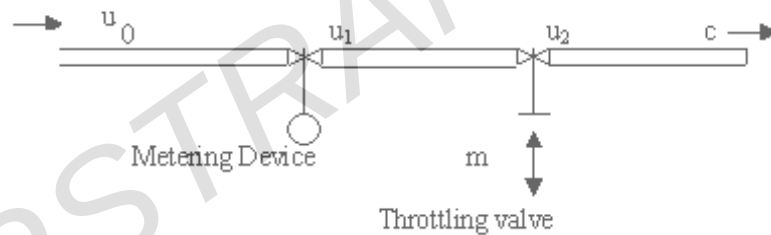

Figure 5a
2. (a) Write the process equation for the flow rate process shown below figure 5a. u_0, u_1 and u_2 are the upstream head, head after metering device and downstream head respectively.